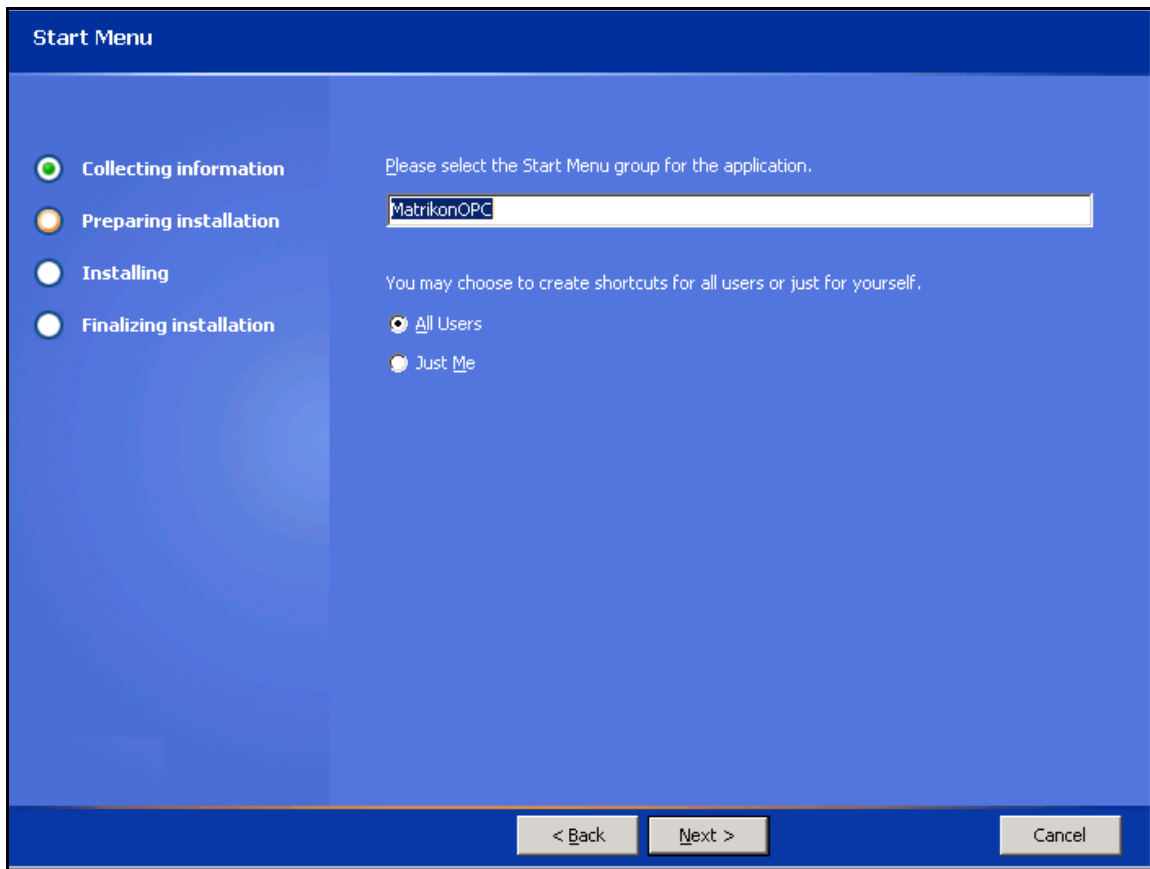

Figure 6 – Start Menu screen
11. Click on the **Next** button. The **Start Menu** screen (Figure 6) appears.